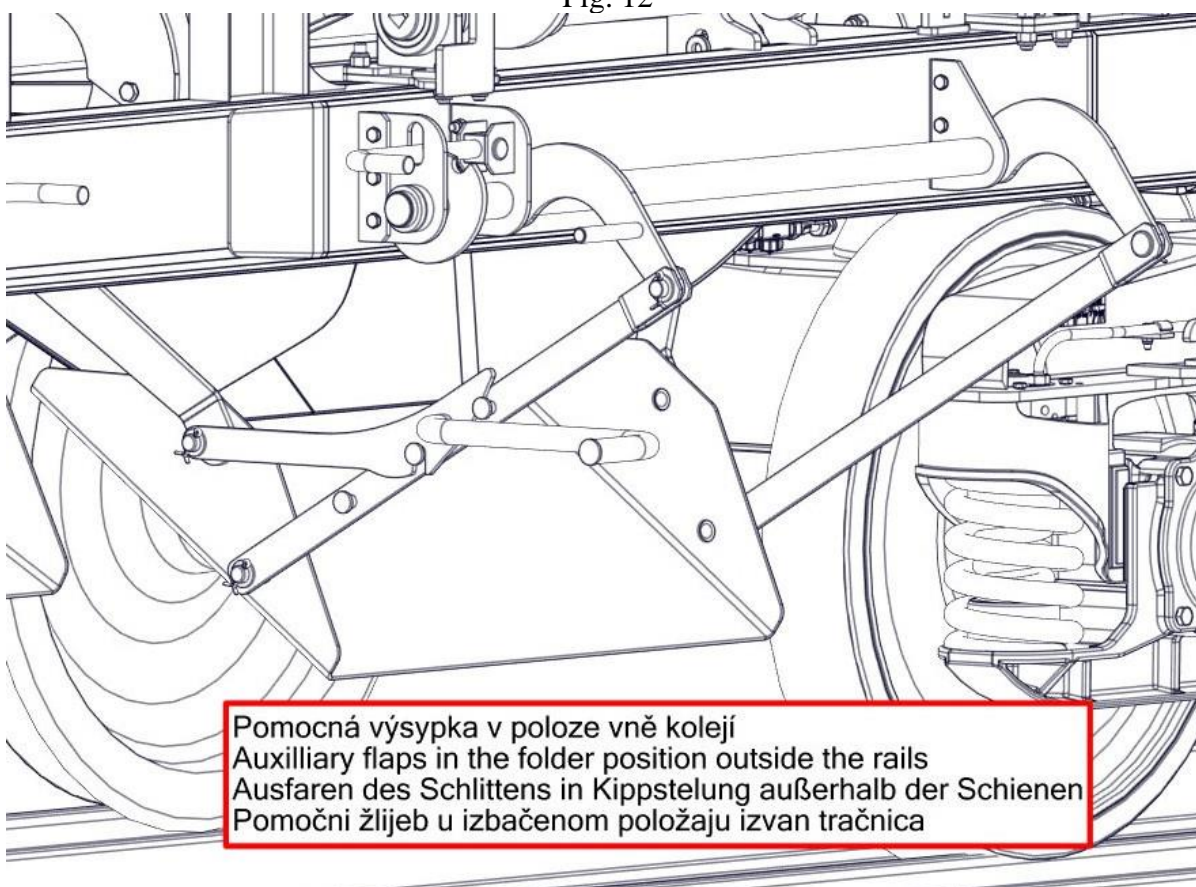
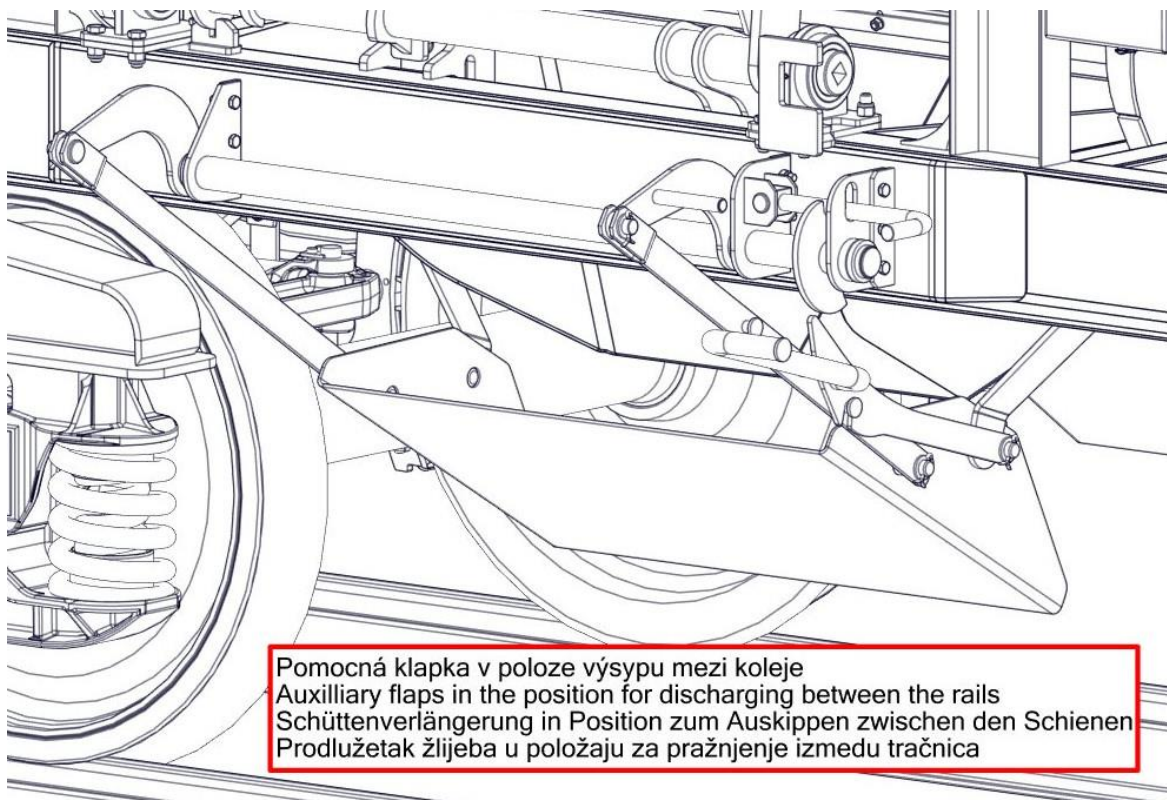
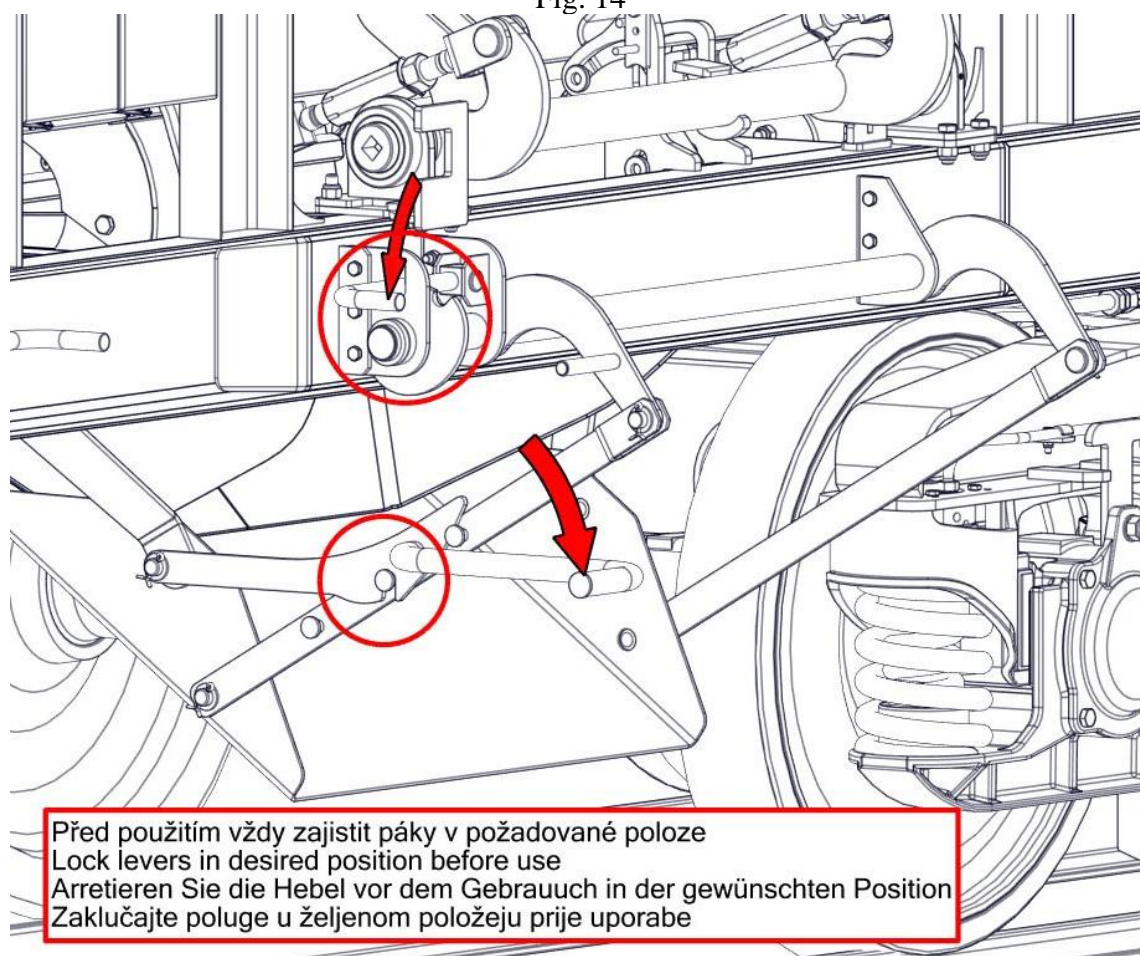

Fig. 13
Fig. 14
Fig. 15
- Extend the unloading chute using the handle in the position where the lever can be locked again – Fig. 13, Fig.14 and Fig 15